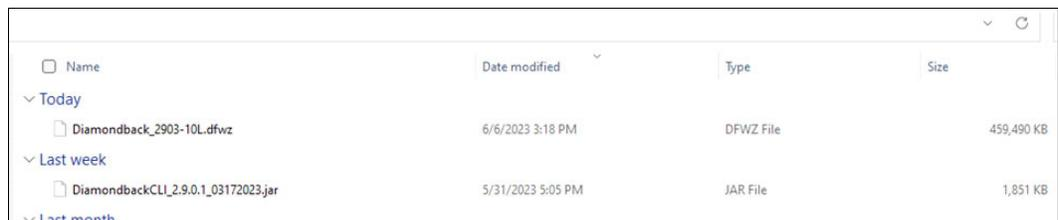

Figure 5-18 Choosing firmware file for update
2. On the File Upload window, browse to the library firmware image and click **Open**, as shown in Figure 5-18.